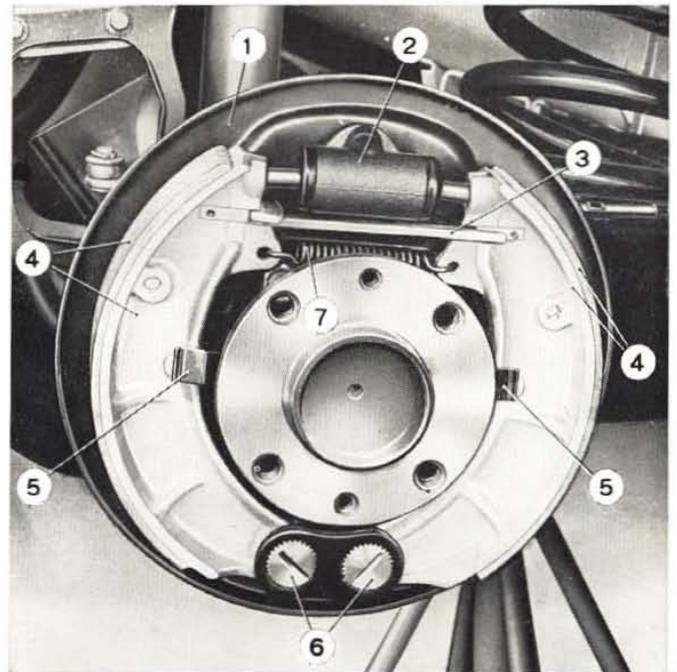

**Fig. 542 - Loosening lower anchor campin nuts.**
3) Insert the .004" (0.10 mm) stock between shoe and drum at lower campins; screw out the campin nut (1, fig. 542), back up the campin (fig. 543) to disengage it from the stop plate and replace the campin one or two serrations on, so to approach the shoe to the drum for a clearance of .004" (0.10 mm).